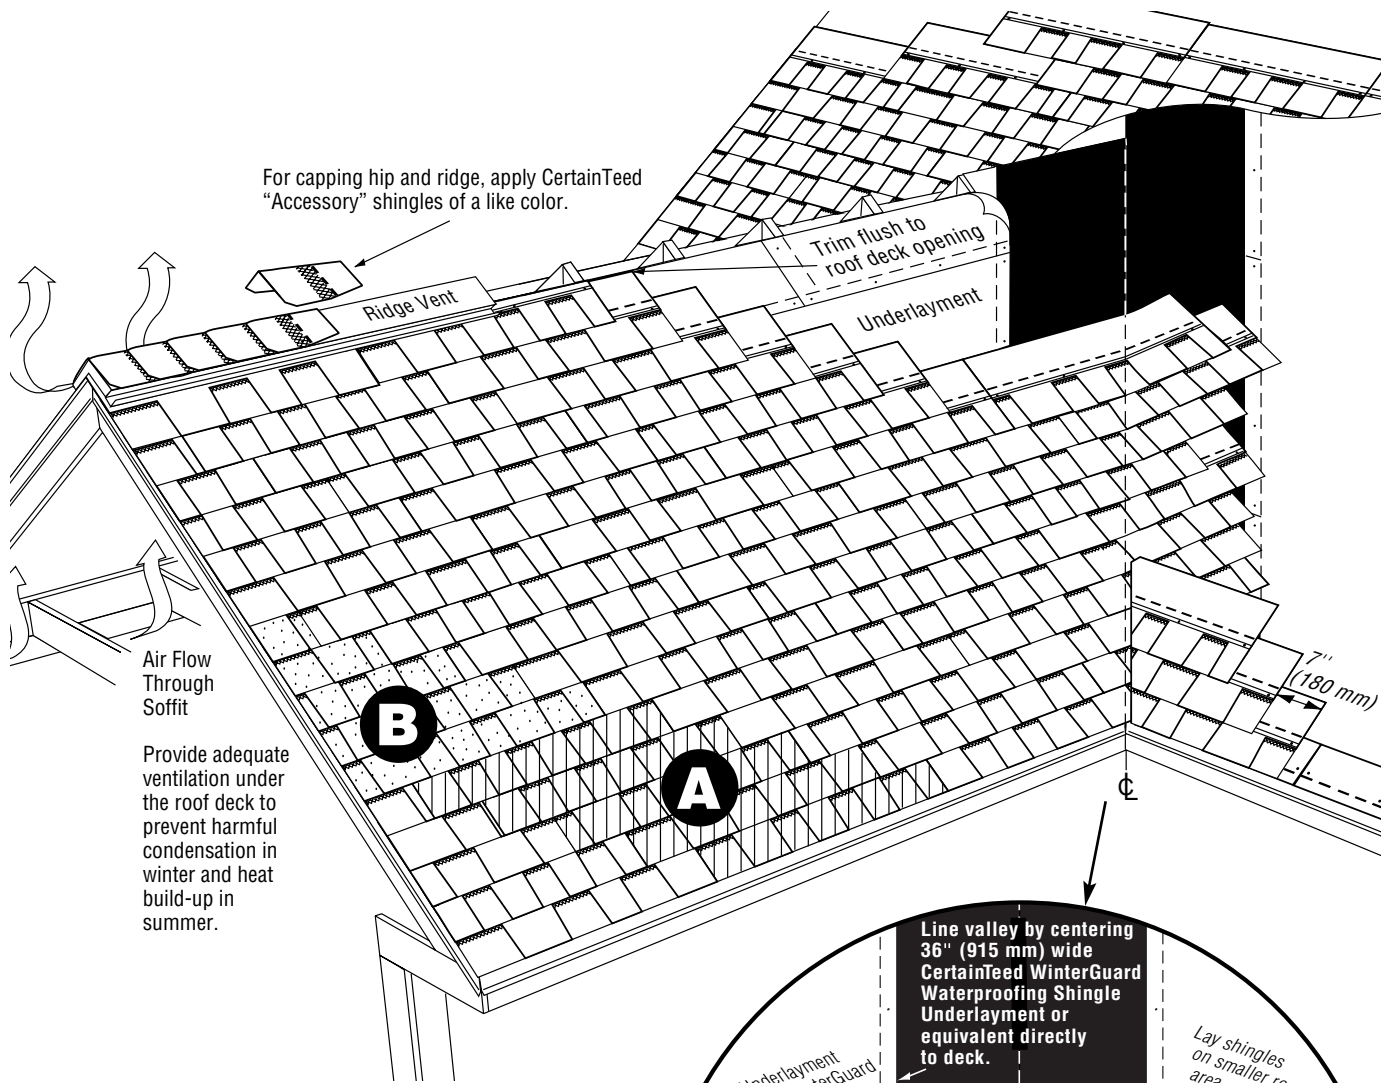

Figure 15-8: "Five-Course Diagonal Method" installation schematic.
1. Beginning again with a full shingle, repeat the five-course pattern up the left rake (*Figure 15-8 – see B*).
2. Fill-in courses across the roof in a stepped diagonal fashion using full shingles (*Figure 15-8 – see A and B*). Do **not** run courses straight across.